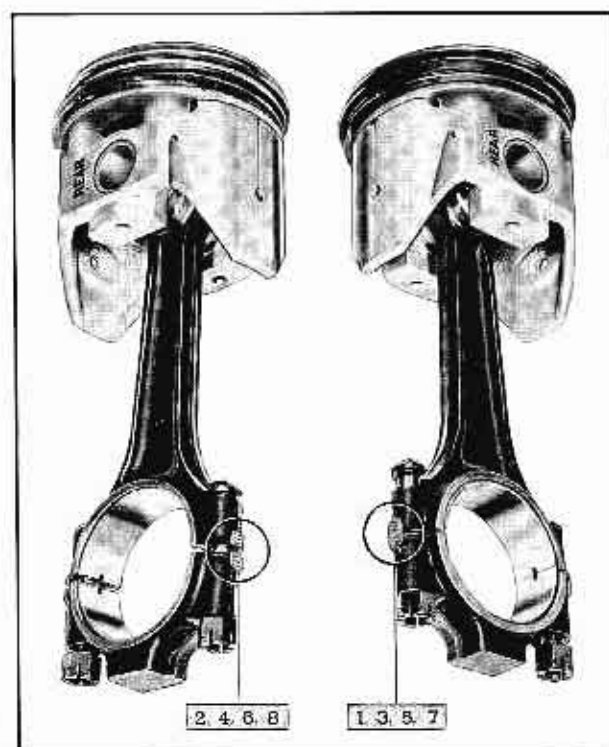

Fig. 10-20 Assembly of Connecting Rods to Piston
2. Position connecting rod in its respective piston so that when assembly is installed in engine the side of piston stamped "REAR" is toward the rear of the engine and numbers on lower end of the rod are down, Fig. 10-20. Numbers 1, 3, 5, 7, are in the left bank and 2, 4, 6, 8 are in the right bank.